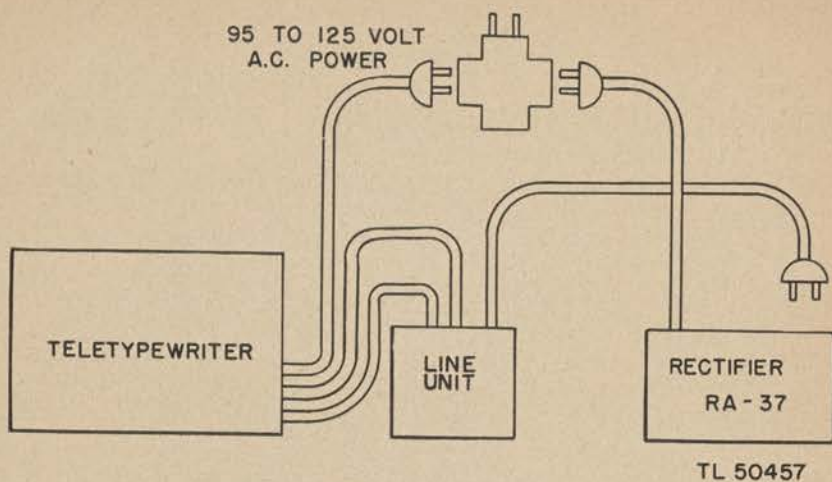

Figure 4. Typical cording diagram.
f. Connection to line unit. With the rectifier ON-OFF switch at OFF, connect the teletypewriter line unit cord to the rectifier receptacle by inserting the plug with prongs turned to the left. To lock the plug in tightly, twist it to the right as indicated by the arrow on the escutcheon plate at the right of the receptacle. Figure 4 shows a typical cording diagram.